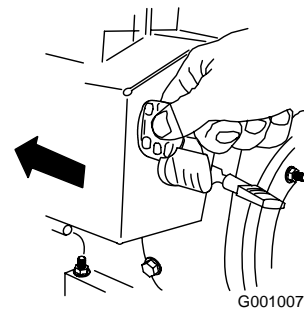

Figure 28
5. Insert the ignition key (Figure 28).